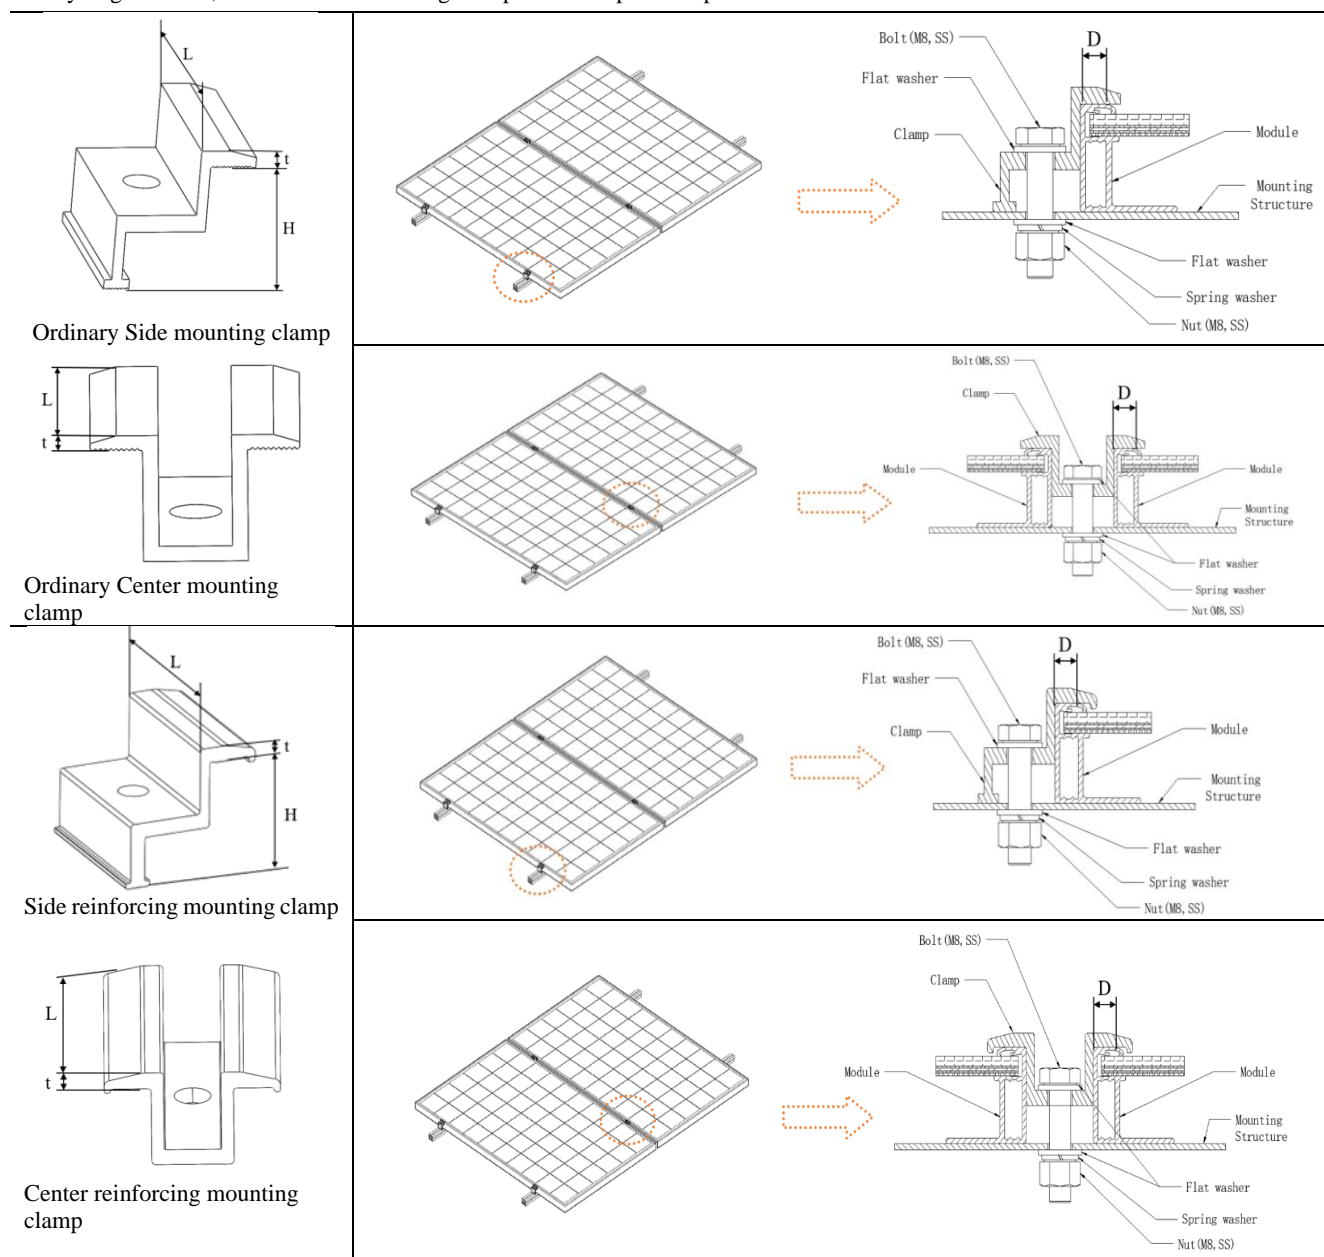

Figure 16 Mounting clamps
- ◇ When selecting the mounting clamp method, ensure that there are at least four clamps on each Module, and the clamp need to be arranged symmetrically (Figure 16). The different mounting positions of the clamps affect the maximum load capacity of the Modules (Table 1).